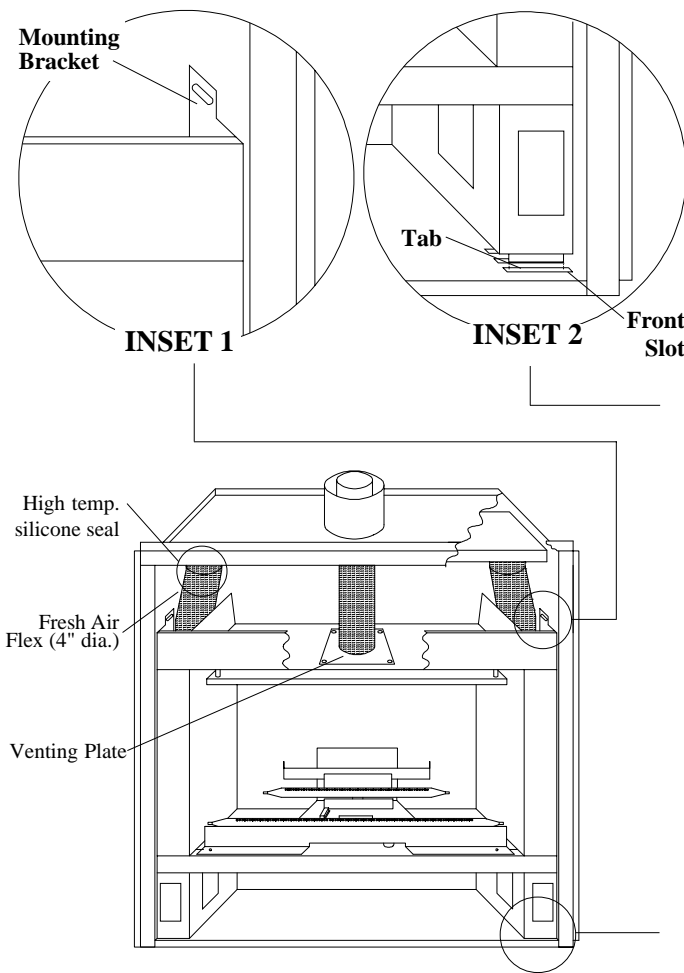

Figure 9. MD38-BV insert.
2. Remove the fresh air flex from the collars on the shell. *See Figure 9. Important: Be careful not to damage the fresh air flex during removal or storage.*